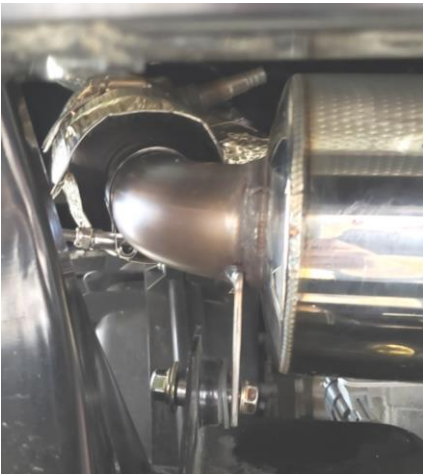

Figure 3
2. Replace the stock hardware at each mounting location. Refer to Figure 3.